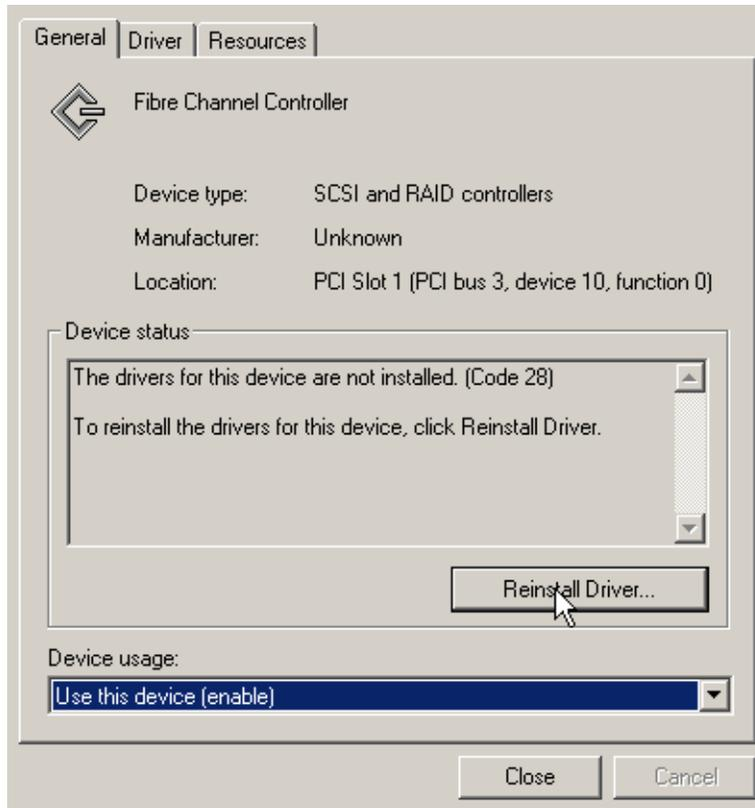

Figure 2 Device properties dialog
8. Select **Reinstall Driver** (see Figure 2 on page 5).